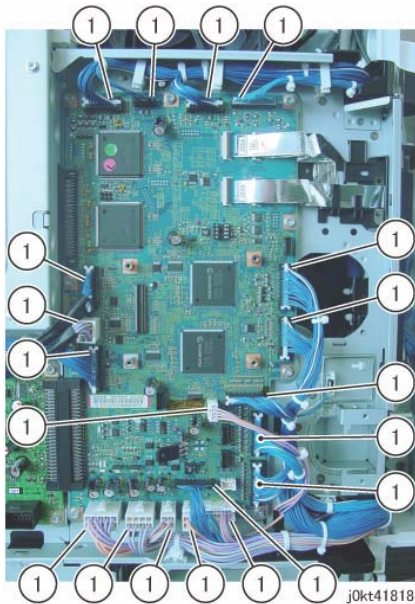

Figure 1 Disconnect the Motor Driver Main PWB connectors
8. Disconnect the Motor Driver Main PWB connectors (x19). (Figure 1)